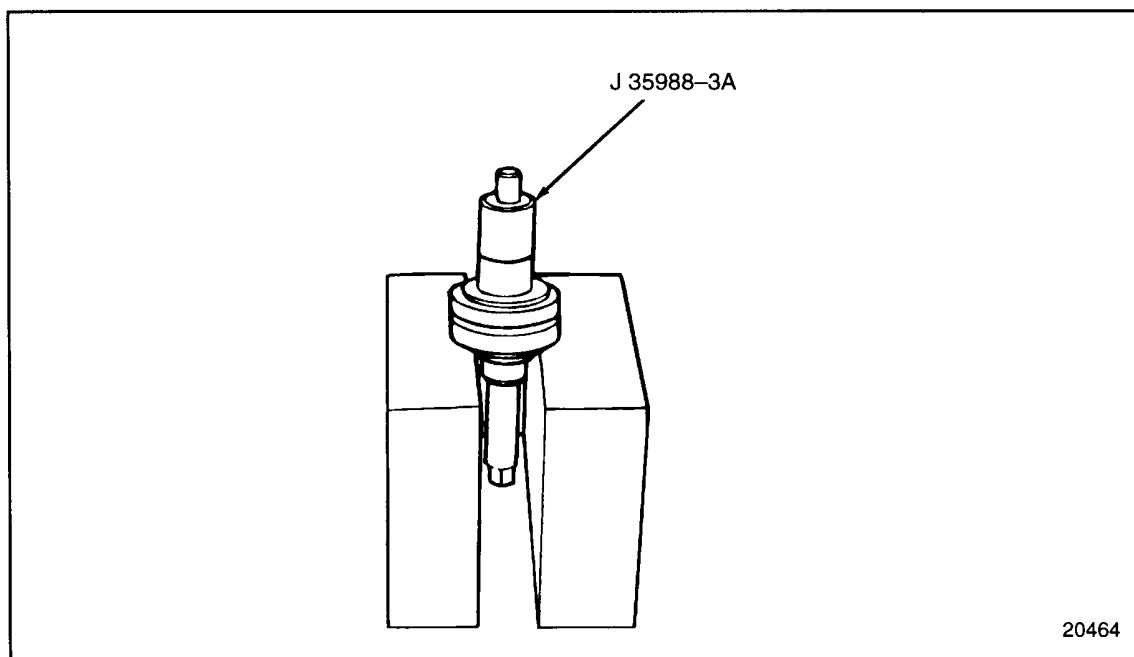

Figure 4-10 Removing Bearing Assemblies
10. Insert extension tool, J 35988-3A, part of tool set J 35988-B, in end of drive shaft. See Figure 4-10.